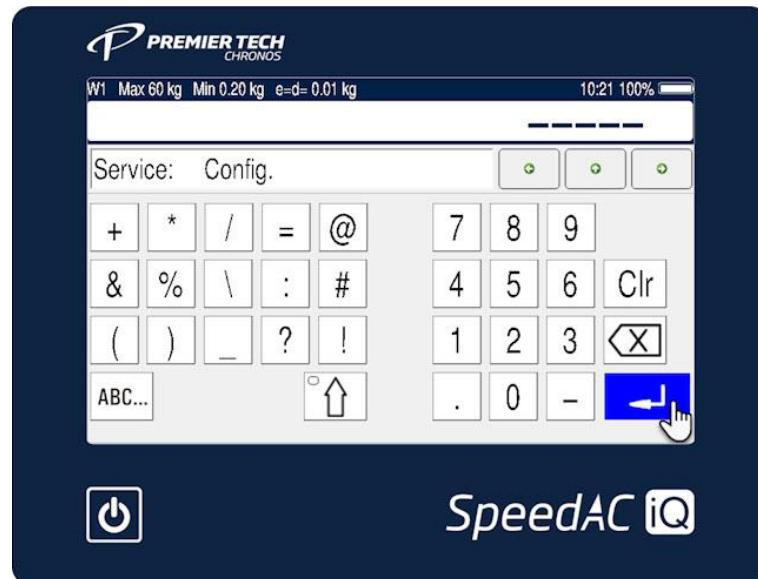

Figure 3: Service Mode Configuration Screen Access
- Use the right-hand side arrow key to locate **Service Config** and validate by hitting the blue return button (**Figure 3**).